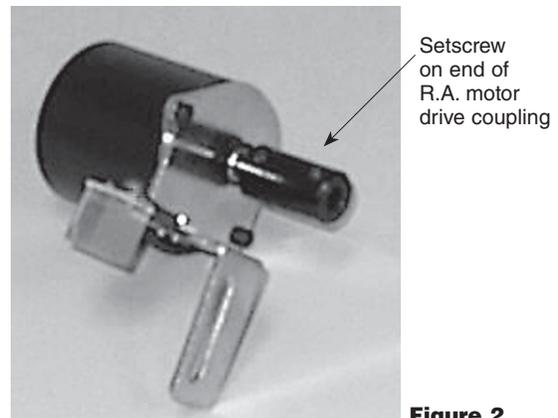

Figure 2
2. The R.A. motor is the one with the chrome-colored bracket and black cylindrical coupling, pictured in **Figure 2**. Using the provided 2mm Allen wrench, loosen the socket-head setscrew on the end of the coupling).